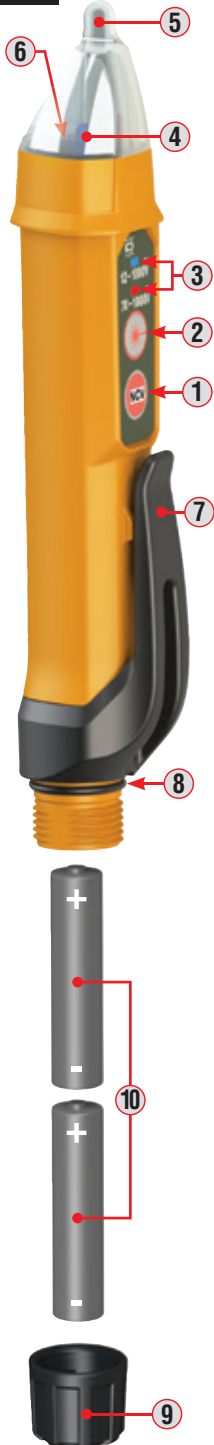

FIG. 1
**FUNCTION BUTTONS (FIG. 1)**
**NCV POWER ON/OFF BUTTON ①**